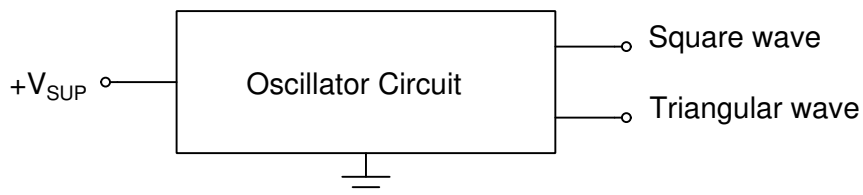
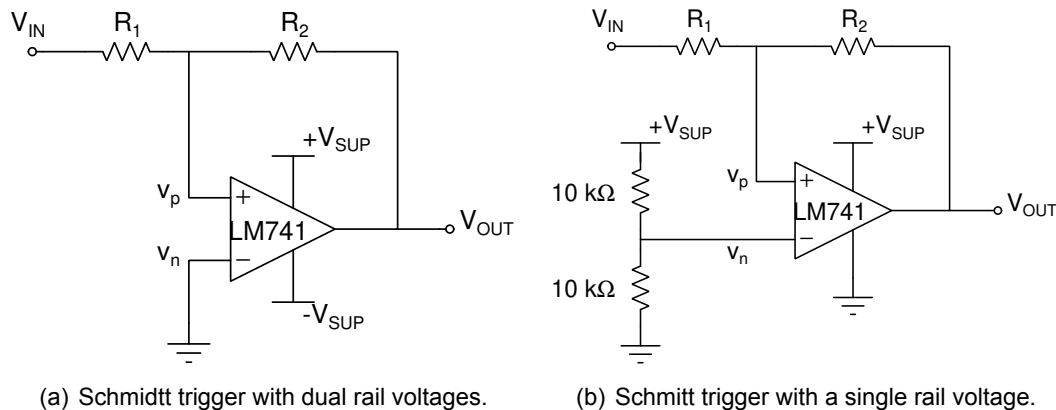
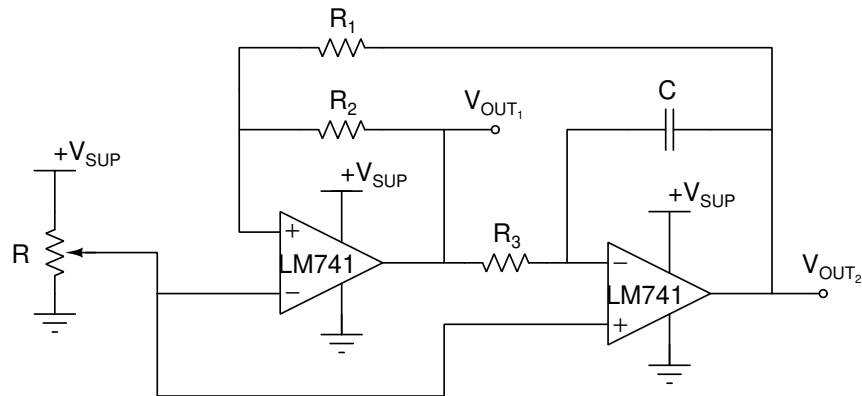

Figure 1: Block diagram of the oscillator circuit showing the inputs and outputs.
Figure 2: Schmitt trigger circuit using an Op Amp with positive feedback.
Figure 3: Oscillator circuit using a Schmitt trigger and an inverting integrator.
Two LM741 Operational Amplifiers (OpAmps) are used to produce an oscillator. A block diagram, showing the inputs and outputs, is shown in Figure 1. The input to the circuit is a DC voltage of $+V_{SUP}$. The output of the circuit consists of a $\sim 10 V_{pp}$ square wave and a $\sim 5 V_{pp}$ triangular wave. The oscillator is formed by connecting the output of a Schmitt trigger, shown in Figure 2, to the input of an inverting integrator (see Lab #2), and then connecting the output of the inverting integrator back to the input of the Schmitt trigger. The complete oscillator circuit is shown in Figure 3.
1. There are many ways to implement a Schmitt trigger. One method uses an OpAmp configured with positive feedback as shown in Figure 2(a), for a dual-rail OpAmp, and Figure 2(b) for a single-rail OpAmp. In these circuits, the output of the OpAmp (V_{OUT}) is connected through resistor R_2 to the **non-inverting** input (v_p) of the OpAmp. This results in an amplifier circuit with positive feedback.
Assume the OpAmp in Figure 2(b) is ideal. Analyze this circuit and derive an equation for the two trigger levels in terms of the resistor values R_1 and R_2 . When $R_1 = 3\text{ k}\Omega$ and $R_2 = 12\text{ k}\Omega$, calculate the trigger levels that cause the output to switch from zero to $+V_{SUP}$, and from $+V_{SUP}$ to zero, and
2. For the Schmitt trigger circuit in Figure 2(b), determine values for resistors R_1 and R_2 so that the separation of the Schmitt trigger levels are $5 \pm 0.25\text{ V}$. Assume the OpAmp is ideal and $+V_{SUP} = 12\text{ V}$. With the chosen values of R_1 and R_2 , what are the two Schmitt trigger levels?
3. Simulate the transfer function of the Schmitt trigger circuit in Figure 2(b) with the resistor values you calculated in item 2. Set the power supply voltage ($+V_{SUP}$) to 12 VDC , and the input voltage (V_{IN}) to a DC voltage source. Use DC analysis to sweep the input voltage between 0 to 12 V . A MATLAB® file for NGspice is available at https://ece214.davidkotecki.com/docs/Matlab/ECE214_2022_Lab5_Schmitt.m. Analyze the simulated behavior of the circuit using both the ideal OpAmp and the LM741 OpAmp.
- Describe the function of the circuit shown in Figure 3. Assume the variable resistor is set to the mid-point resistance. Sketch the shape of the expected output signals V_{OUT1} and V_{OUT2} as a function of time.
- Perform a transient simulation of the circuit of Figure 3 using the Ideal OpAmp. What is the simulated value of the oscillation frequency? What is the duty cycle? A MATLAB® file for NGSpice is available at https://ece214.davidkotecki.com/docs/Matlab/ECE214_2022_Lab5_Osc.m.
- Perform a transient simulation of the circuit of Figure 3 using the LM741 OpAmp. Since the OpAmp is not ideal, the value of R_3 you calculated may be off by as much as 20%. Adjust the value of R_3 to produce an oscillation frequency of 1.5 ± 0.1 kHz.